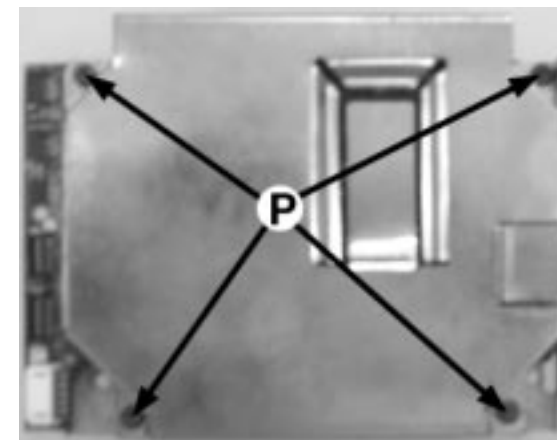

Figure 14B
- 4) Loosen 4 screws P (see Figure 14B) to open the Shield IAM (pos 262).